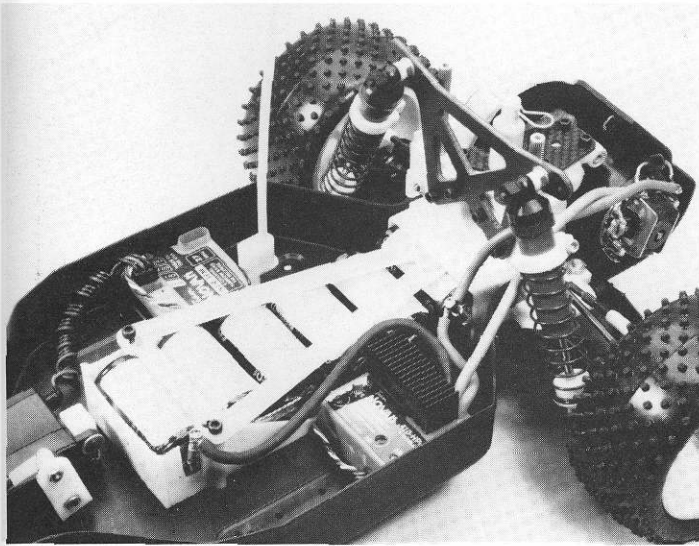

Fig. 186
□ **Figs. 186, 187, 188 & 189** Go ahead and install your battery hold down strap over your batteries. If you do not remember how, you can refer back to figs. 149 to 151. Your completed car will now look like figs. 186-189.